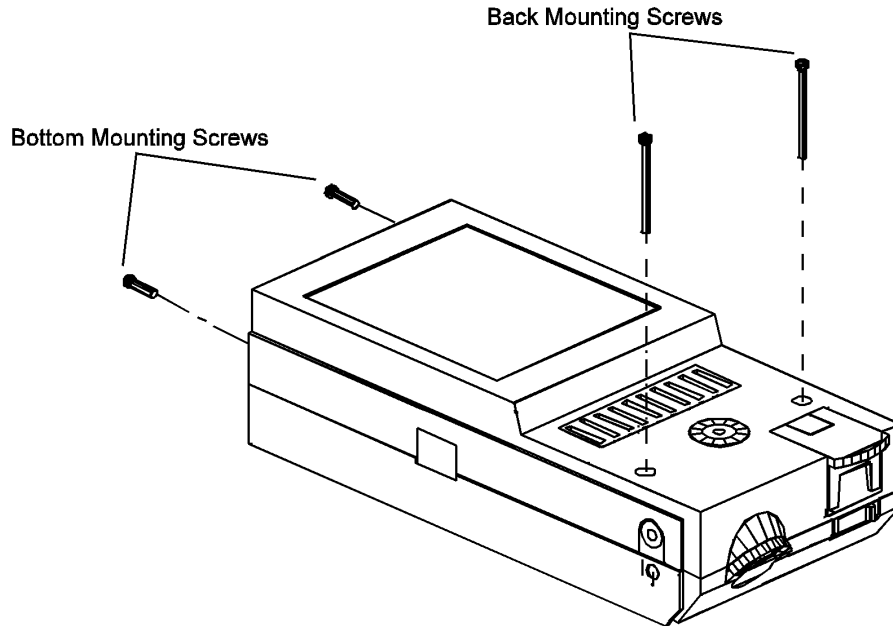

Figure 7-2: Removing Mounting Screws
3. Remove the two Bottom Mounting and two Back Mounting Screws from the rear panel of the monitor as shown in Figure 7-2: Removing Mounting Screws.